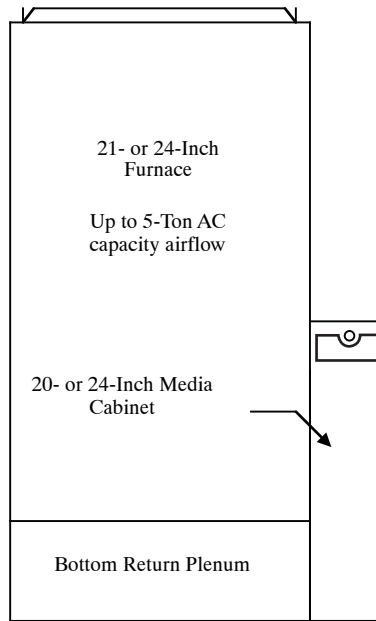

Fig. 21 - 20-or 24-in. MC Installation Option for Combination Side and Bottom Return
- a. Fig. 21 shows the filter cabinet flush mounted to the furnace side. For this installation, an 8-in. bottom return plenum is required. A similar 4-in. bottom return plenum may be used with the 20-in. filter cabinet.